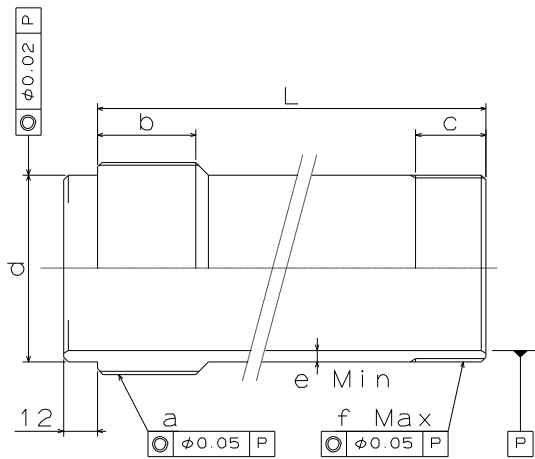

Fig.14
The dimension L in Fig.14 is determined from the distance A between the cylinder adaptor and the back plate.
- Keep the dimension e and the dimension f in Fig. 14 for the draw pipe and a material with the tensile strength 380MPa (38kgf/mm2) or more must be used.